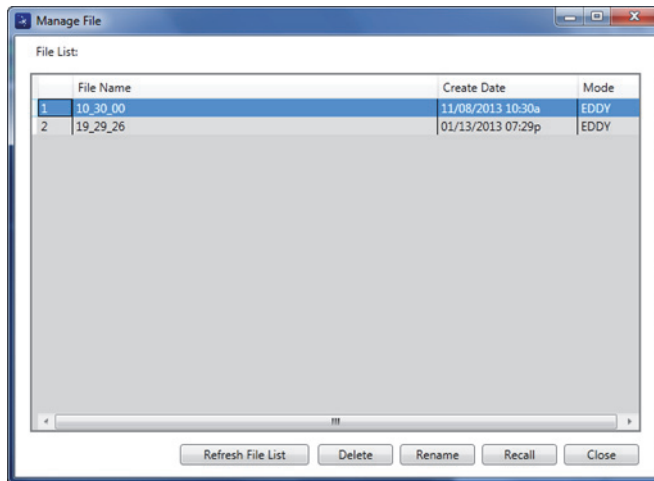

Figure 6-22 The Manage File dialog box
The **Manage File** dialog box appears (see Figure 6-22 on page 326).
- 1. In the **Manage File** dialog box, choose the file to be renamed, and then click **Rename** (see Figure 6-22 on page 326).
1. In the **Manage File** dialog box, choose the file to be recalled, and then click **Recall** (see Figure 6-22 on page 326).
- ◆ In the **Manage File** dialog box, click **Refresh File List** (see Figure 6-22 on page 326).